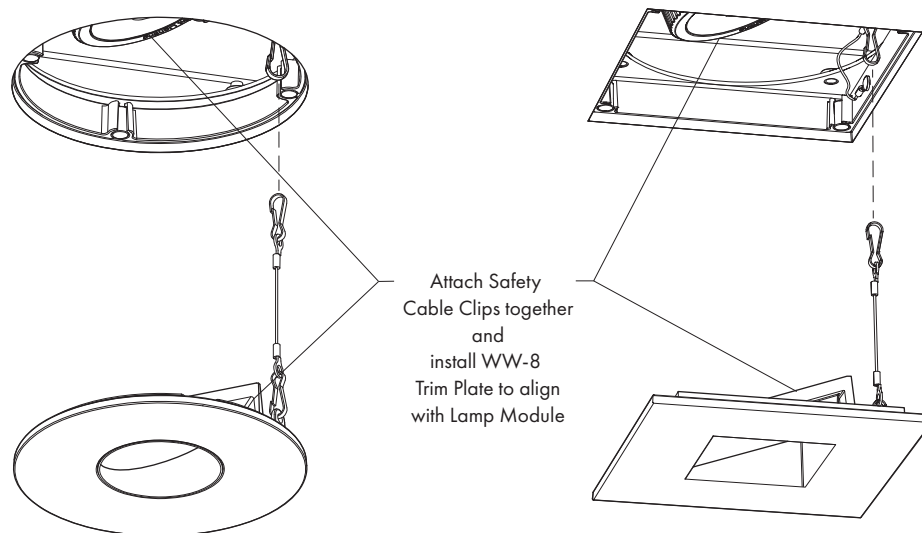

FIG 8.2 Align and Install WW-8 Trim Plate
STEP 3 Install WW-8 Trim Plate to be aligned to Lamp Module - **FIG 8.2.**